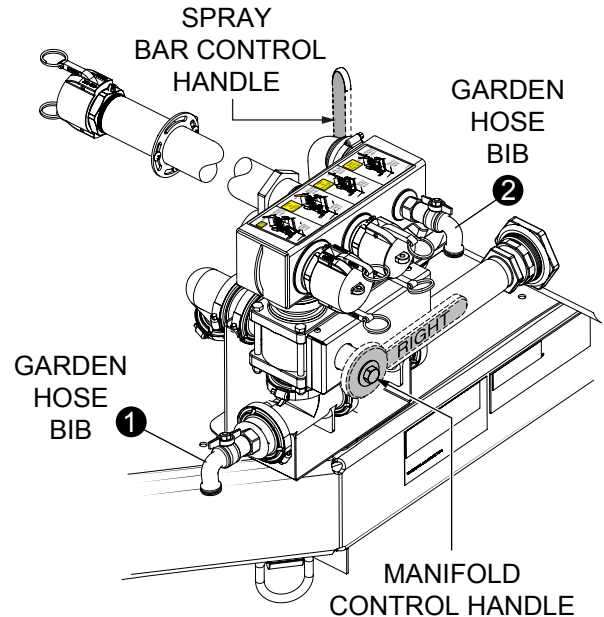
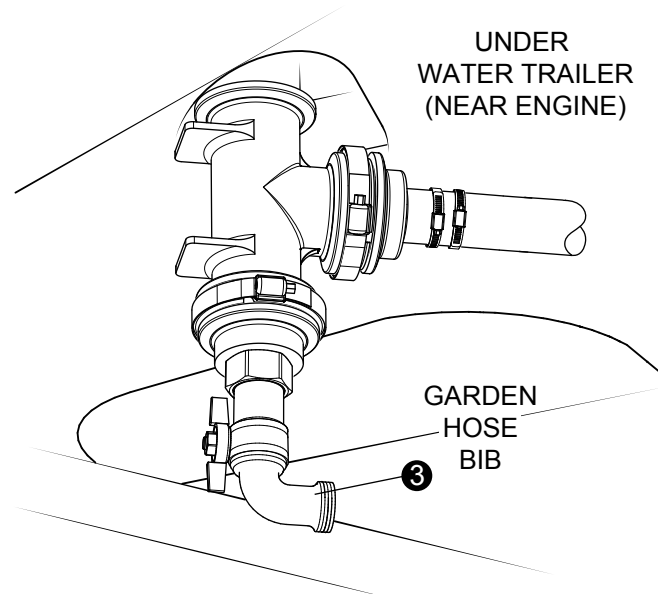

Figure 23. Control Handle Positions and Garden Hose Bibs Location
Figure 24. Third Garden Hose Bib Location
4. Rotate the manifold control handle to the 3 o'clock position (horizontal/right). See Figure 23.
5. Rotate the spray bar control handle to the 12 o'clock position (vertical). See Figure 23.
6. Locate and open all three garden hose bibs (parallel with pipe position) and leave open. See Figure 23 and Figure 24.